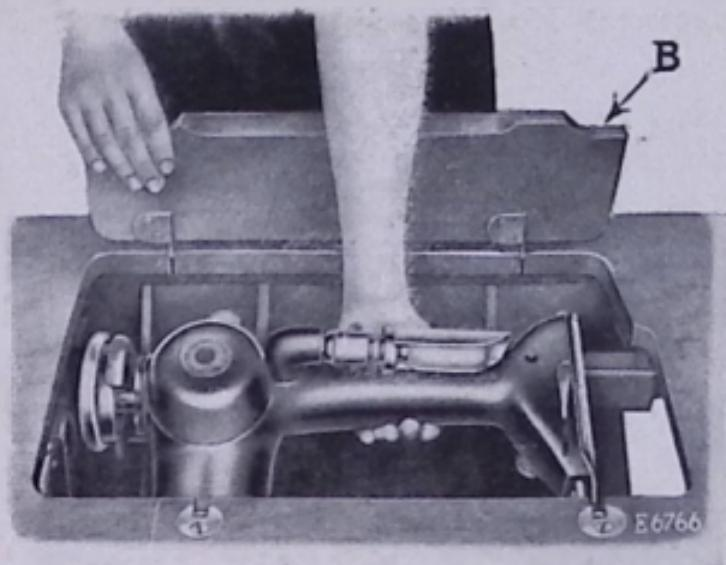
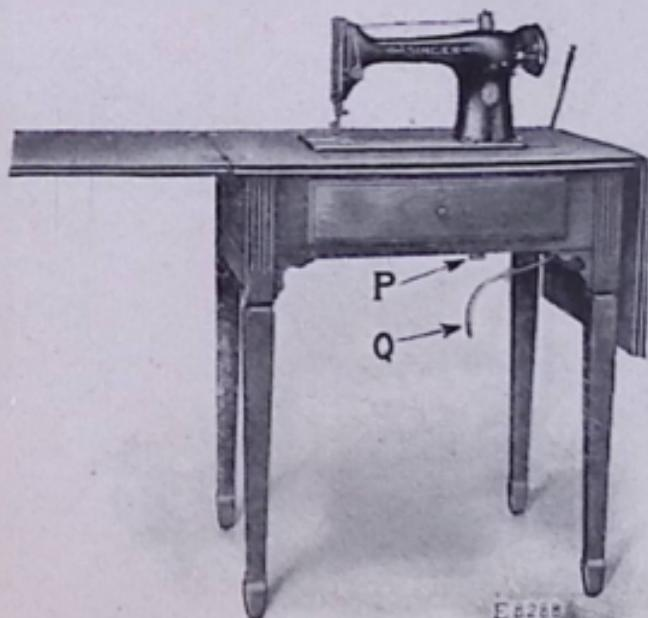

FIG. 5. RAISING MACHINE OUT OF CABINET 40
FIG. 6. KNEE LEVER LOWERED TO OPERATING POSITION
With the right hand raise the front hinged portion (B, Fig. 5) of the table, and at the same time, place the left hand under the front side of the arm of the machine, as shown in Fig. 5, being **very careful not to touch the electric lamp or shade**, and raise the sewing machine head, then replace the hinged portion of the table and lower the machine so that it rests on the table, as shown in Fig. 6.
Pull down the knee lever (Q) to the vertical position as shown in Fig. 6.
Push the terminal plug at one end of the electric cord as far as it will go on the three-pin terminal block under the cabinet, as shown at (P) in Fig. 6.
Raise the sewing machine head out of the cabinet as shown in Fig. 5, being very careful not to touch the electric lamp or shade, then turn down the hinged flaps of the table top and lower the machine so that it rests on the table as shown in Fig. 10.
With the left hand grasp the machine around the front side of the arm, turn it slightly back on its hinges, and at the same time, with the right hand, raise the front hinged portion (B, Fig. 5, page 7) of the table, lower the machine head, **being careful not to touch the electric lamp or shade**; then lower the hinged portion (B).
Place the material beneath the presser foot, lower the presser foot and commence to sew, pressing the knee lever (Q, Fig. 6, page 7) to the right to start the machine.